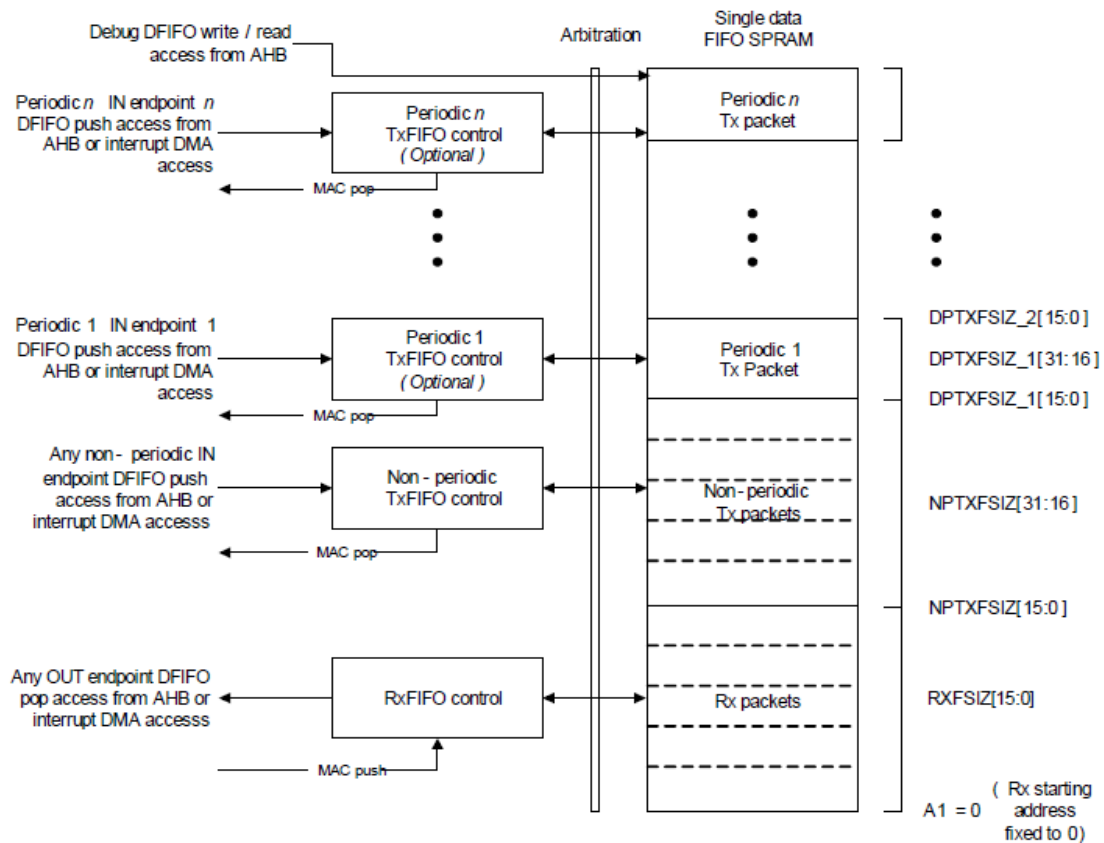

Fig. 27-9 USB OTG 2.0 Controller device mode FIFO address mapping
- Fig.27-9 shows FIFO mapping in Device mode.